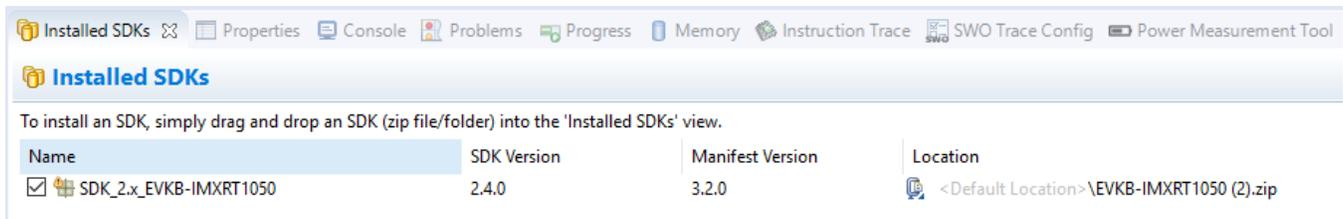

Figure 17. MCUXpresso installed SDKs
4. Open the MCUXpresso IDE. On the bottom of the workspace, there is a panel with some tools. Click “Installed SDKs” (Figure 17) and drag and drop the downloaded file into the “SDKs” field.